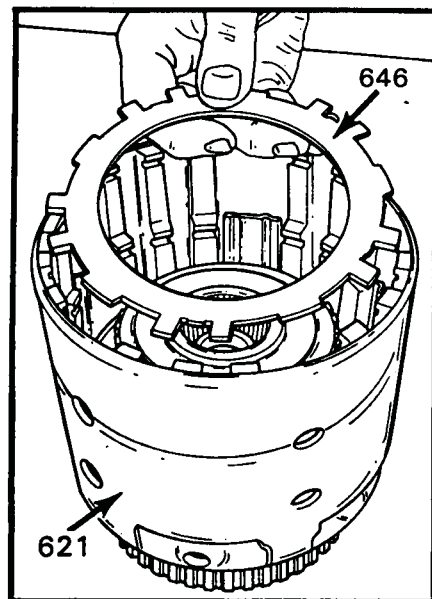

Figure 129
1. Install the forward clutch apply plate on top of the overrun clutch plates with the teeth aligned with the overrun plates (See Figure 129).